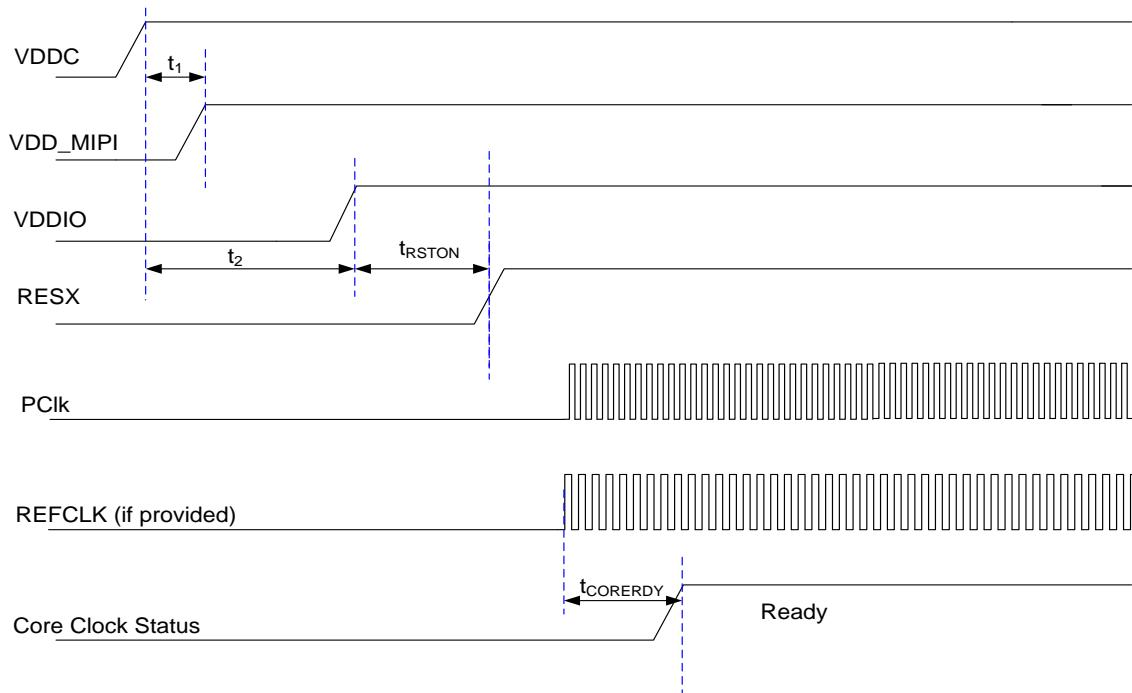

Figure 5-2 Power On Sequence with External RefClk Running
2. For voltage source, it is desired to turn on core power (1.2) source first, then Analog PHY and IO power as shown in Figure 5-2 Power On Sequence.
4. The timing parameters for Figure 5-2 are tabulated in Table 5-3.